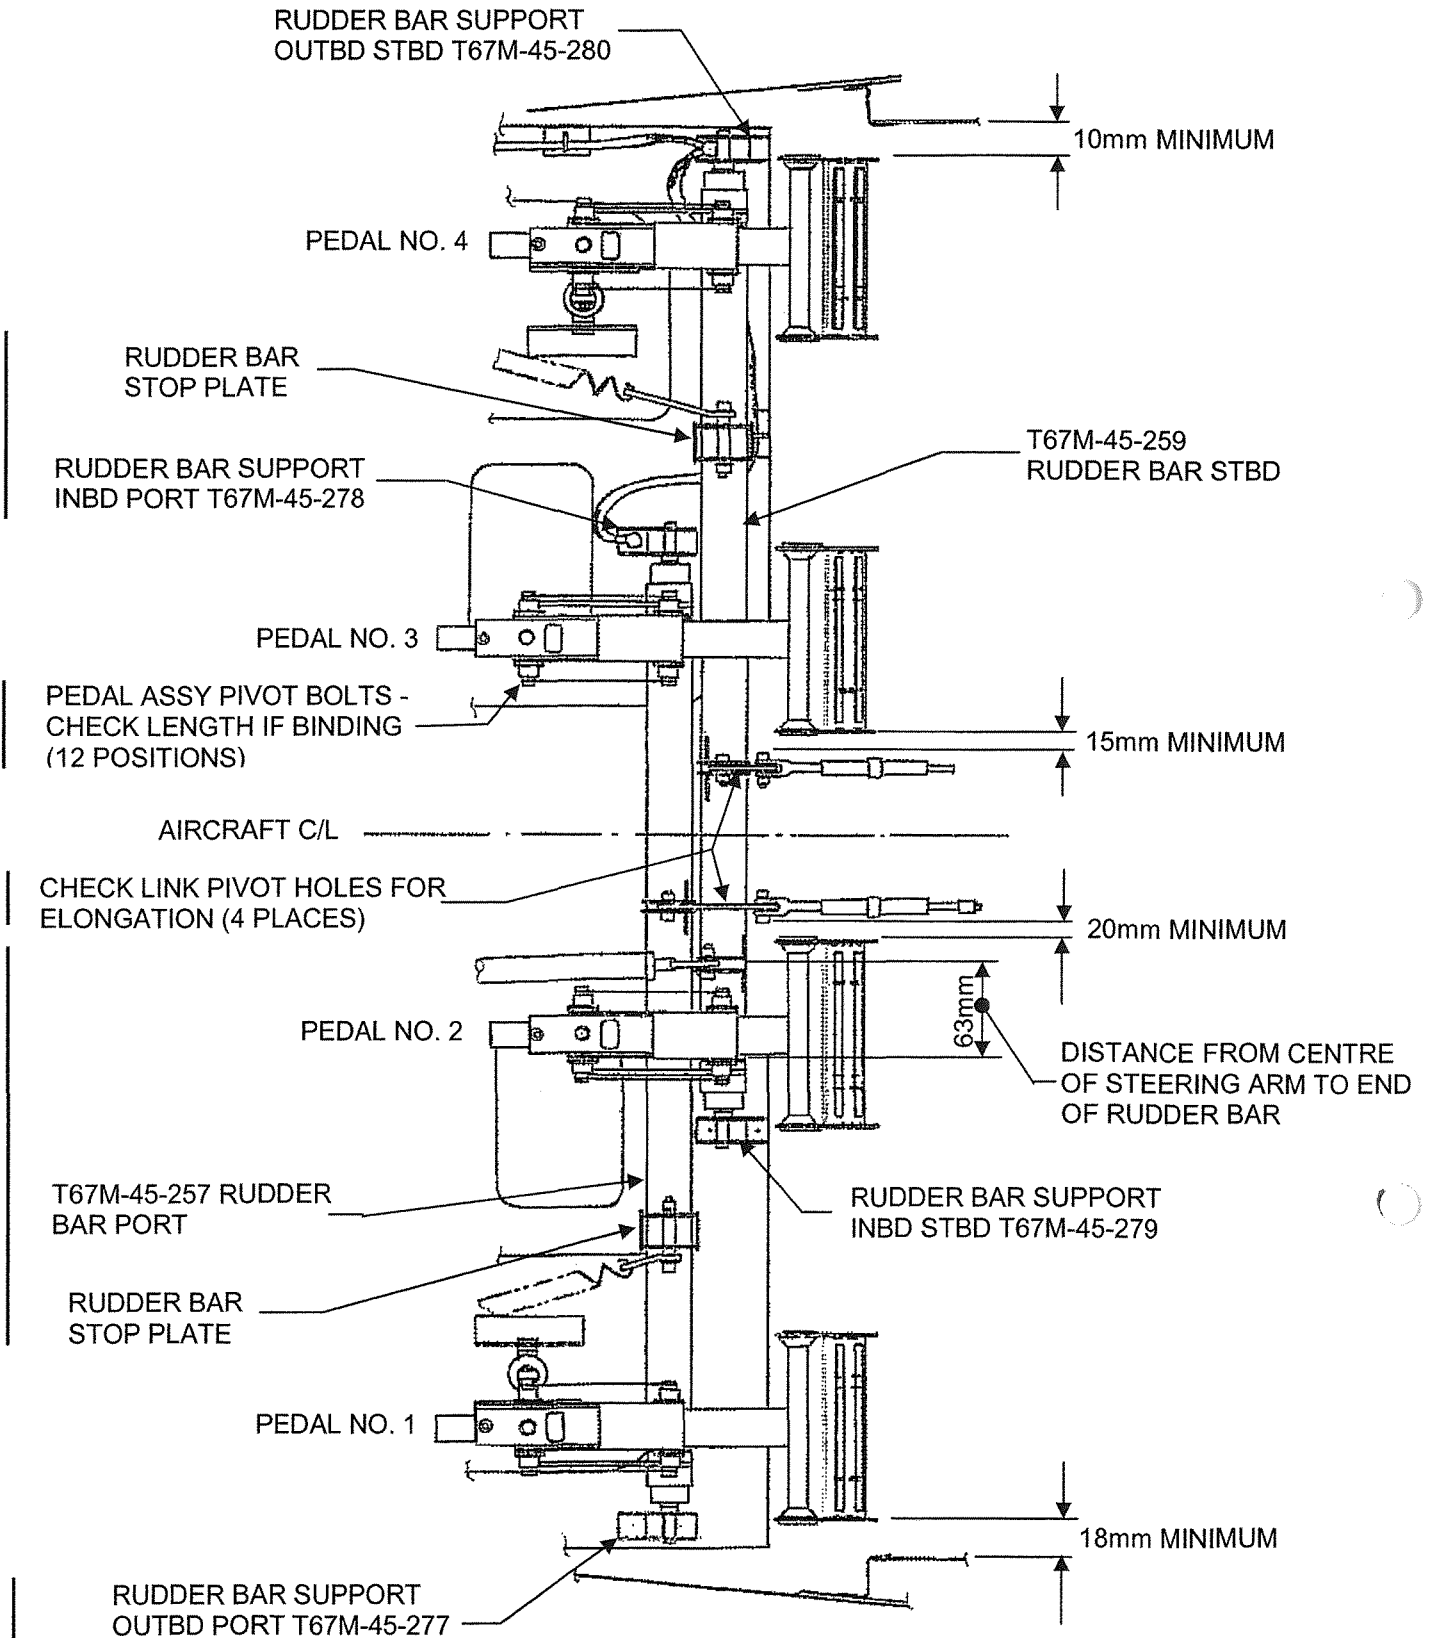
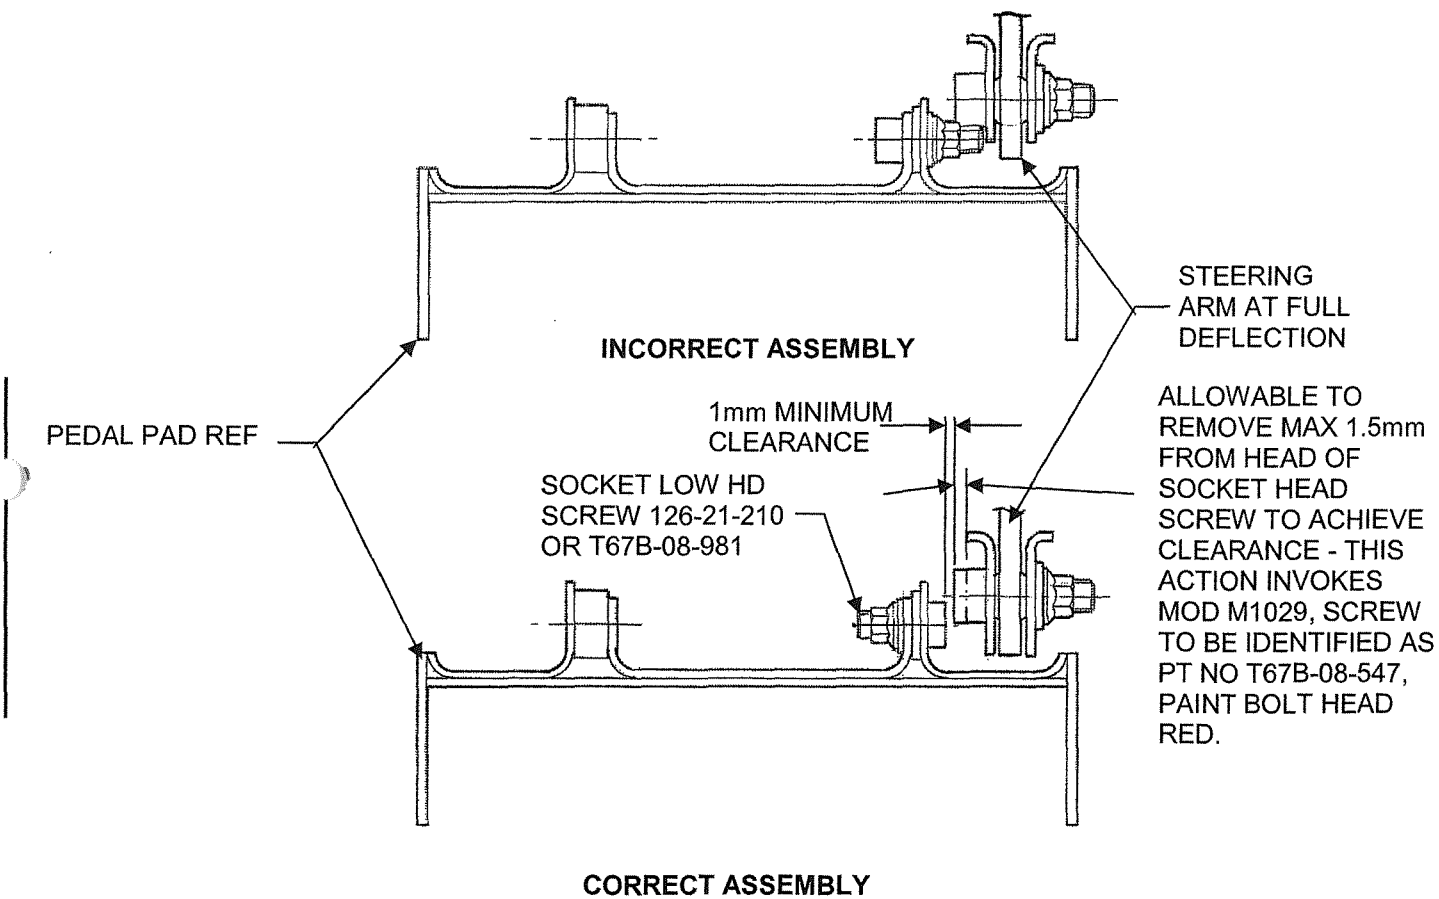

FIGURE 4
FIGURE 6
10. Ensure the rudder pedal carriages have full and free movement. If binding is suspected then check the 'U' bracket internal dimension. This should measure 35.0mm to 35.5mm, the bracket should also be parallel and square to the rudder bar axis, Figure 9 View on 'A' refers. Check that the pivot bush protrudes from its boss by 0.5mm. If the bracket internal dimension is greater or less, or if out of alignment then the bracket should be checked for cracking, refer Figure 9. If cracking is found then return rudder bar to SACL for rework. Finally check length of carriage pivot bolts, reference Figure 4, if binding is noted then replace bolts with bolt part number T67B-08-537 this introduces a bolt 15 mm long, measured from under head, and invokes Mod M808 "Introduction of Shortened Pivot Bolt to Rudder Pedal Slider Assembly Mounting". Also refer to SB130 Inspection of Rudder Pedals for Adjustment Restriction".
Note 2: Note rudder stop plates, positions indicated on Figure 4, are permitted with deformation assuming full rudder movement and clearances have been achieved and there is no cracking in the welds supporting the stop plates, if in doubt return rudder bar to SACL for rework.
14. Upon completion of rudder movement set-up ref. Paragraph 12 above, ensure minimum clearances of trim panel to pedal side plates and rudder cable to pedal side plates are met Refer Figure 4. Refer paragraph 9 for packing washers.
19. Ensure Pedal no 2 Pedal pad pivot bolt head height is less than 5mm and orientated, as shown in Figure 6. A minimum of 1mm clearance is required, if not, fit part no 126-21-210 or T67B-08-981, this invokes Mod M671 "Introduction of Low Head Rudder Pedal Pad Pivot Bolts – Pedal No. 2". If clearance is not still achieved check distance of steering arm from bar end, Figure 4 specifies. If the distance is incorrect, then return rudder bar to SACL for re-worked/new item. Alternatively if clearance of 1mm is still not achievable remove up to a maximum of 1.5mm from the steering arm screw this invokes Modification action M1029, Figure 6 refers, and paint modified screw head red.